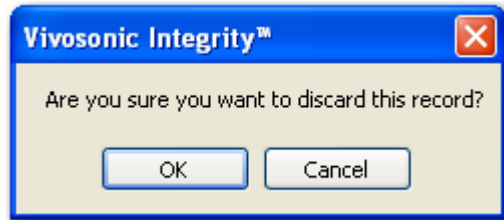

Figure 15 Dialog box - Are you sure you want to discard it?
2. Press **OK** when asked *Are you sure you want to discard this record?* (Figure 15). If you choose **OK**, the test results will be erased from the system's memory. If the test results have not been saved the data will be gone permanently. If you choose **Cancel**, the collected data will remain on the **Test** screen.